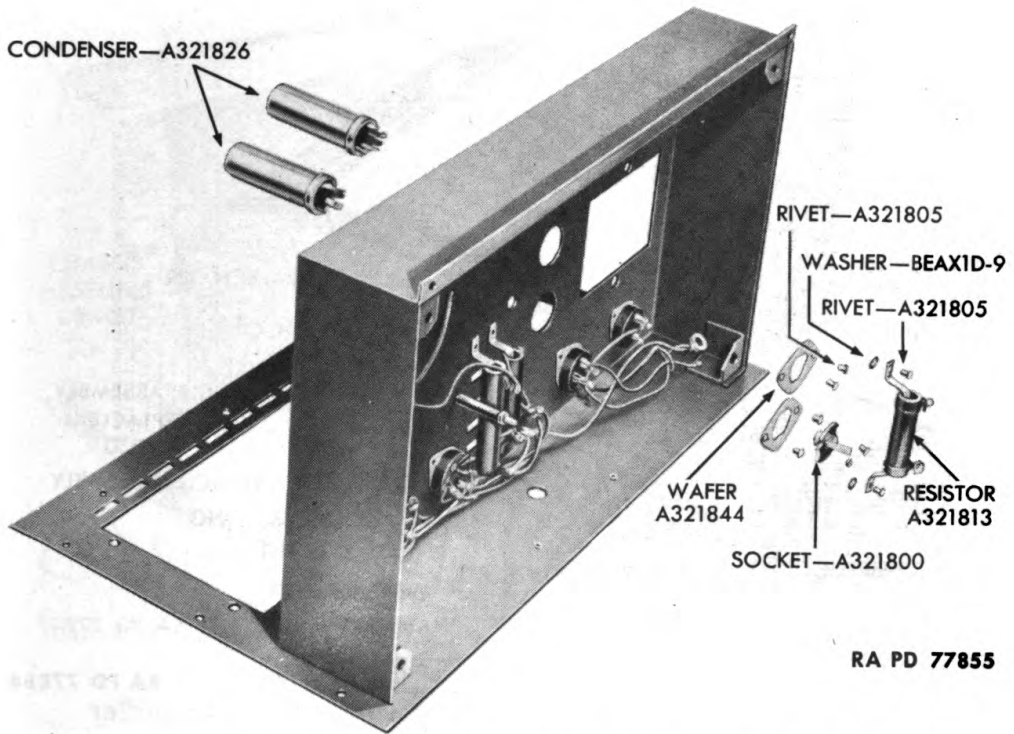

Figure 22 — Removal of Condensers and Associated Parts From Amplifier
(17) Remove the rivets, socket, and wafers to remove the condensers A321826 (fig. 22) from the chassis. Drive out the rivets holding the resistor A321813 in position.